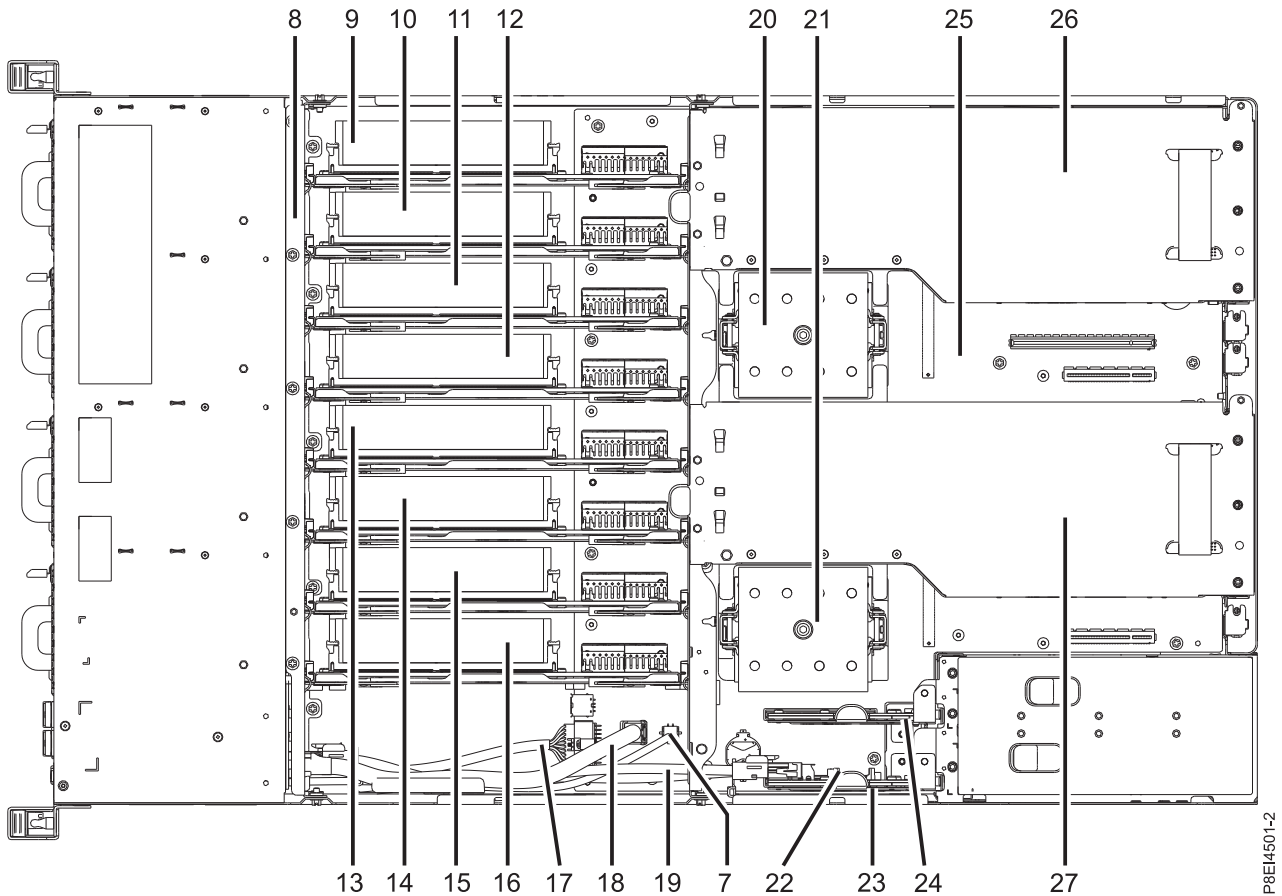

Figure 31. Location of the memory risers: positions 9 through 16
2. Locate the memory riser that contains the failed memory DIMM. Figure 31 on page 32 shows the location of the memory risers in the 8335-GCA or 8335-GTA system and Figure 32 on page 32 shows the DIMM slot locations on the riser.